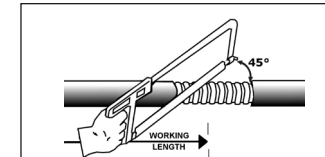

Figure 1
2. Determine the working length, remove a portion of the outer jacket to expose the armour, cut armour using a hacksaw and trim the outer jacket to adjust the exposed armour strip length as indicated in the table (Figures 1 and 2).